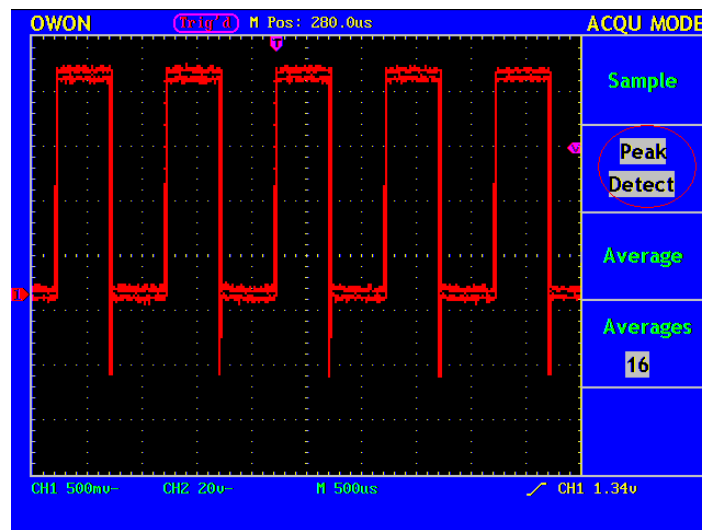

Fig.67 Signal with Noises
2. Press **F2** to select Peak Detect function. The signal displayed on the screen containing some noise, by turning on Peak Detect function and changing time base to slow down the incoming signal, any peaks or burr would be detected by the function. (See Fig.67).